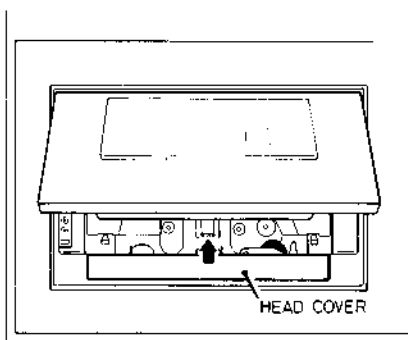

Fig. 12
2. Remove the Head Cover by sliding it into the compartment (Refer to Fig. 12).